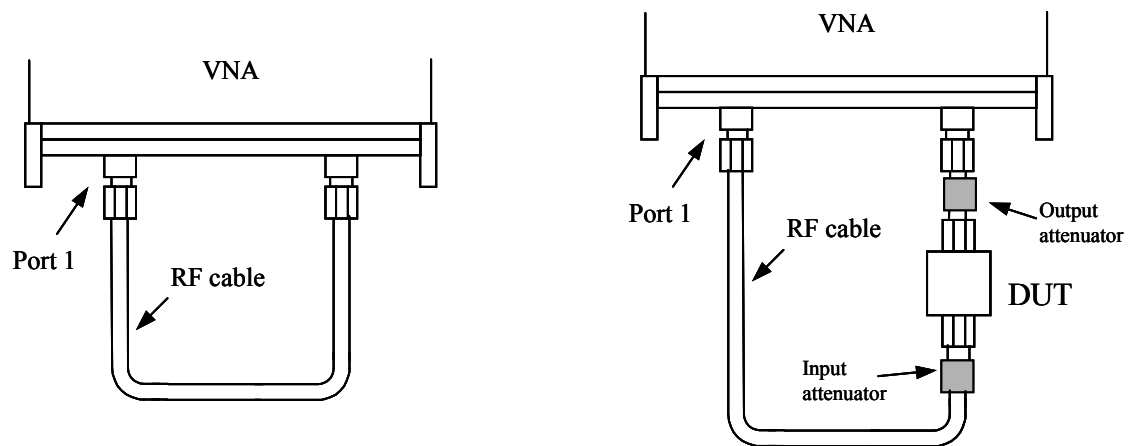

Figure 6.37 Basic connection guide for P_{1dB} measurements. Calibration connection is shown on the left
This utility allows the measurement of the AM to PM conversion factor of a DUT. Generally it is used for evaluating the linearity of active devices such as amplifiers. The utility is started up by going to the drop down menu under 'Utilities' near the top left corner of the main window. It is shown in Fig. 6.37.
- Call up AM to PM Utility (window shown in Fig. 6.37)